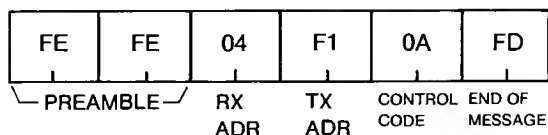

Fig. 41
- (2) If the controller sends out a packet such as in Fig. 41, the information of the displayed MEMORY CHANNEL is transferred to a VFO.